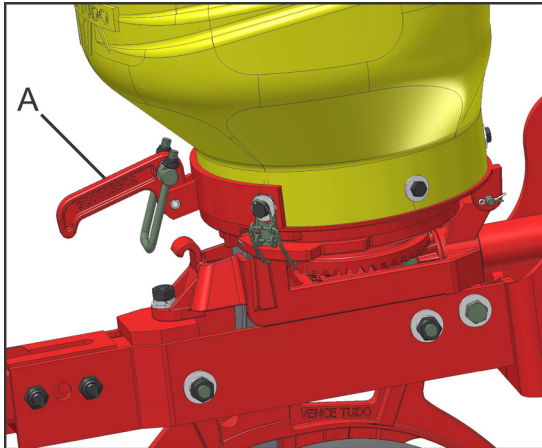
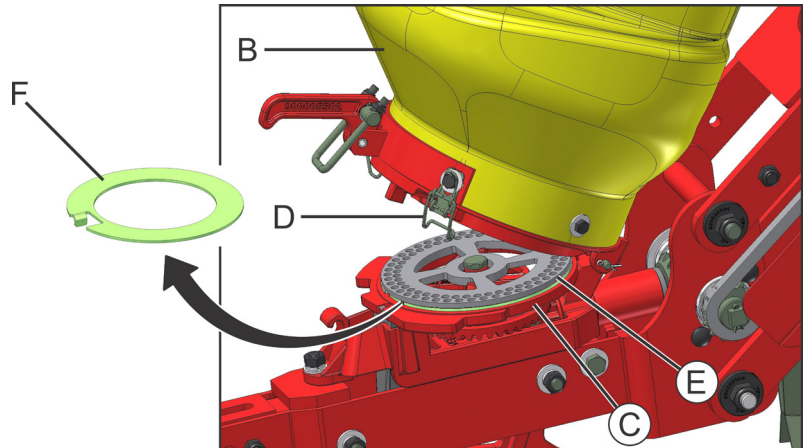

fig. 06
fig. 07
To check or replace the discs, press the lever (A) (fig. 06), lift the reservoir (B) (fig. 07) and release base ring (C) through clips (D).
The space where the disc (E) (fig. 07) is housed in the base ring (C) is **0.33 in.** The disc (E) and the ring (F) to be used must comply with the sum that reaches 0.33 in. If the disc thickness is 0.33 in, it is not necessary to use the ring. Check the table on the side.